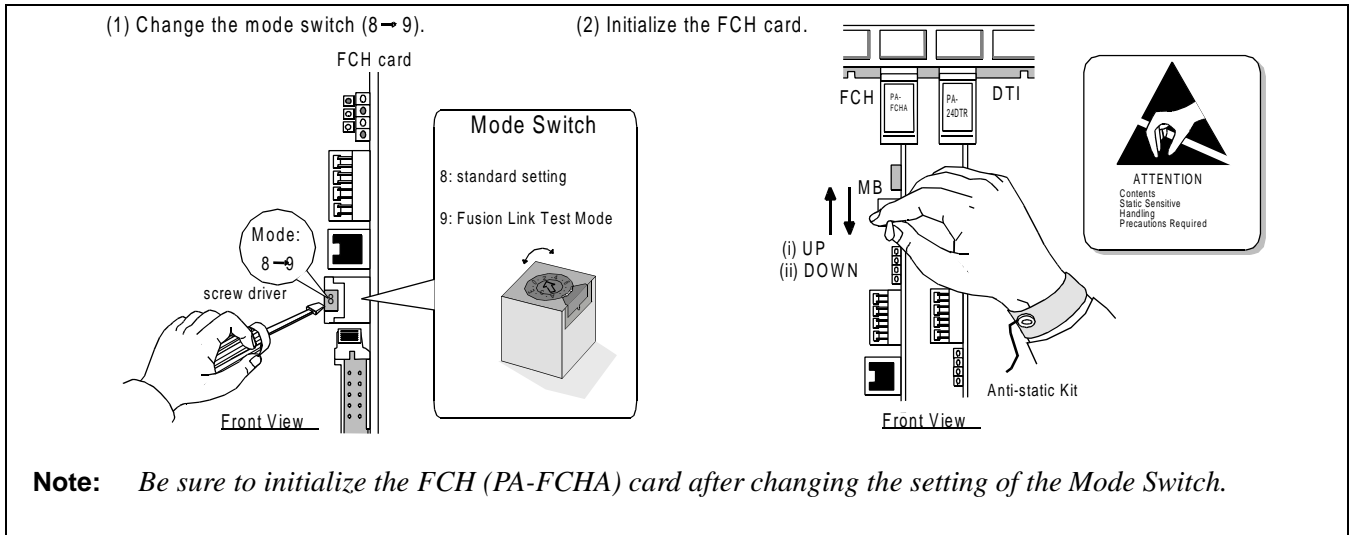

Figure 6-5 How to Set the Fusion Link Test Mode
STEP 1: Set the MODE switch to 9 (Fusion Link Test) from 8 (standard setting) on the FCH card, and initialize the circuit card by turning the MB switch ON→OFF. Refer to Figure 6-5.